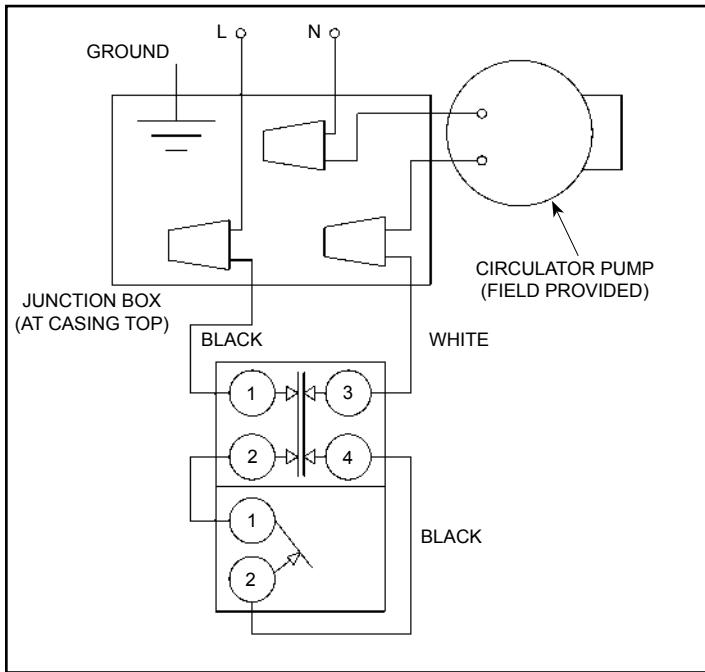

Figure 4. Wiring Diagram
- Connect the circulator pump in series with the thermostat as shown in Figure 4.